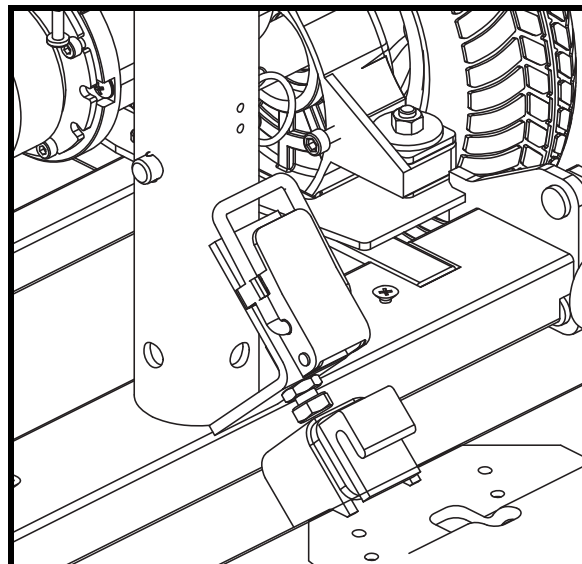

Figure 8. Toggle Latch Open
7. Rotate the toggle latch buckle over the top of the toggle latch until it snaps into its retainer. See figure 8.